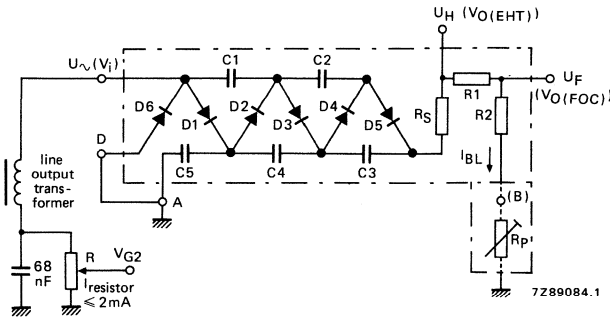

Fig. 5 Example of operation.
Resistor (R) current for V_{G2} voltage divider (see Fig. 5)